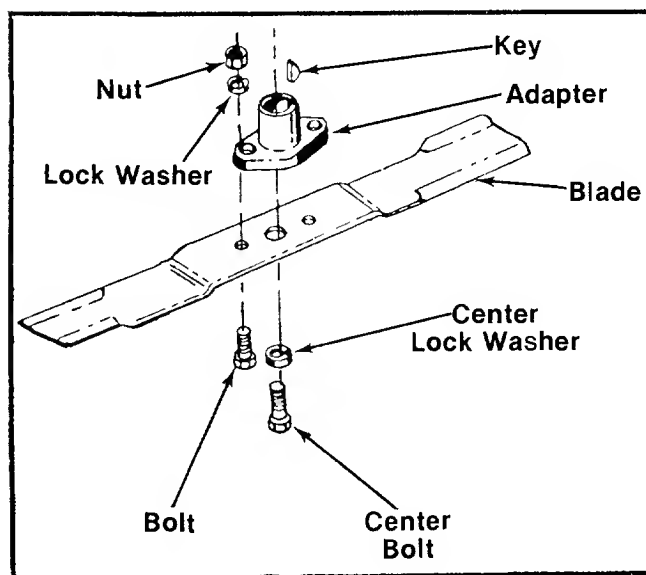

FIGURE 11.
1. Remove the large bolt and lock washer which holds the blade and adapter to the engine crankshaft. See figure 11.